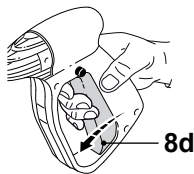

Fig. 20
1. Release the trigger (8d) (Fig. 20).